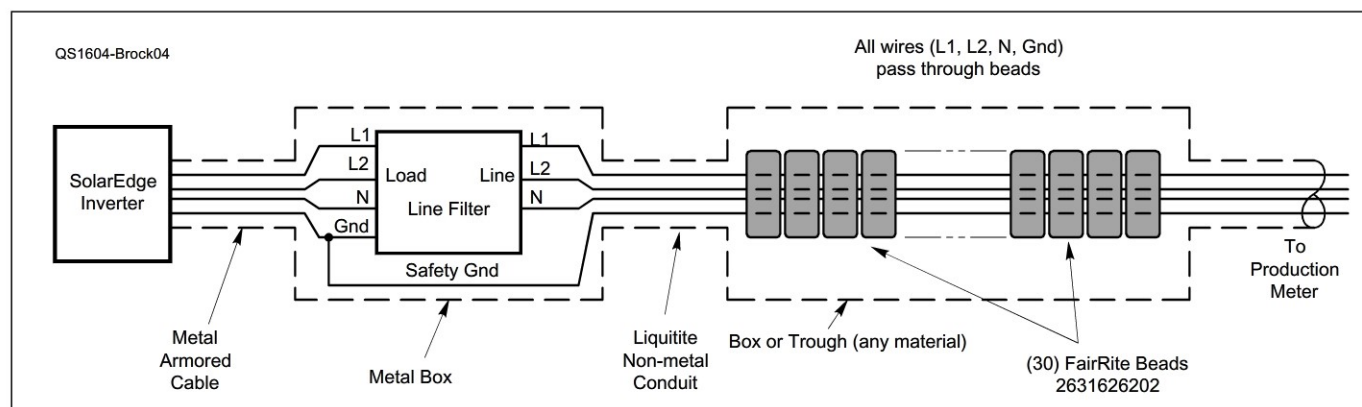

Figure 4 — Line filtering of ac between the inverter and line connection.
power to the mains, along with a neutral (N) lead. There is also a safety ground. The dc input leads with their safety ground are routed to the inverter in EMT; they are filtered at the roof. The ac output side of the inverter could have a combination of common-mode and differential mode noise. The differential mode is suppressed by a large two-section line filter (Corcom 60AYT6C). Its 60 A rating meets the 20% safety margin required by the National Electrical Code (NEC). The filter provides 75 dB of suppression from 0.5 to 10 MHz, and 60 dB at 30 MHz on the L1, L2, and N lines from the inverter. The NEC requires that the safety ground bypass the filter, so that if the filter should fail, the safety ground is not interrupted. Figure 4 illustrates the connections.
I constructed a large common-mode choke consisting of 30 Fair-Rite 2631626202 cores, each 1.5 inches long with 1-inch inner diameter. The four leads — L1, L2, N, and ground — pass through the 30 beads. The line filter and the common-mode choke are each enclosed in metal troughs supplied by Direct Energy (see Figure 4). To be effective, *all* current in the safety ground must pass *through* the beads. This means that the outer metal enclosure for the beads must *not* be electrically connected on both ends. I made the physical connection from the line filter enclosure to the common-mode choke enclosure using plastic conduit, thereby forcing all ground currents to pass through the beads.